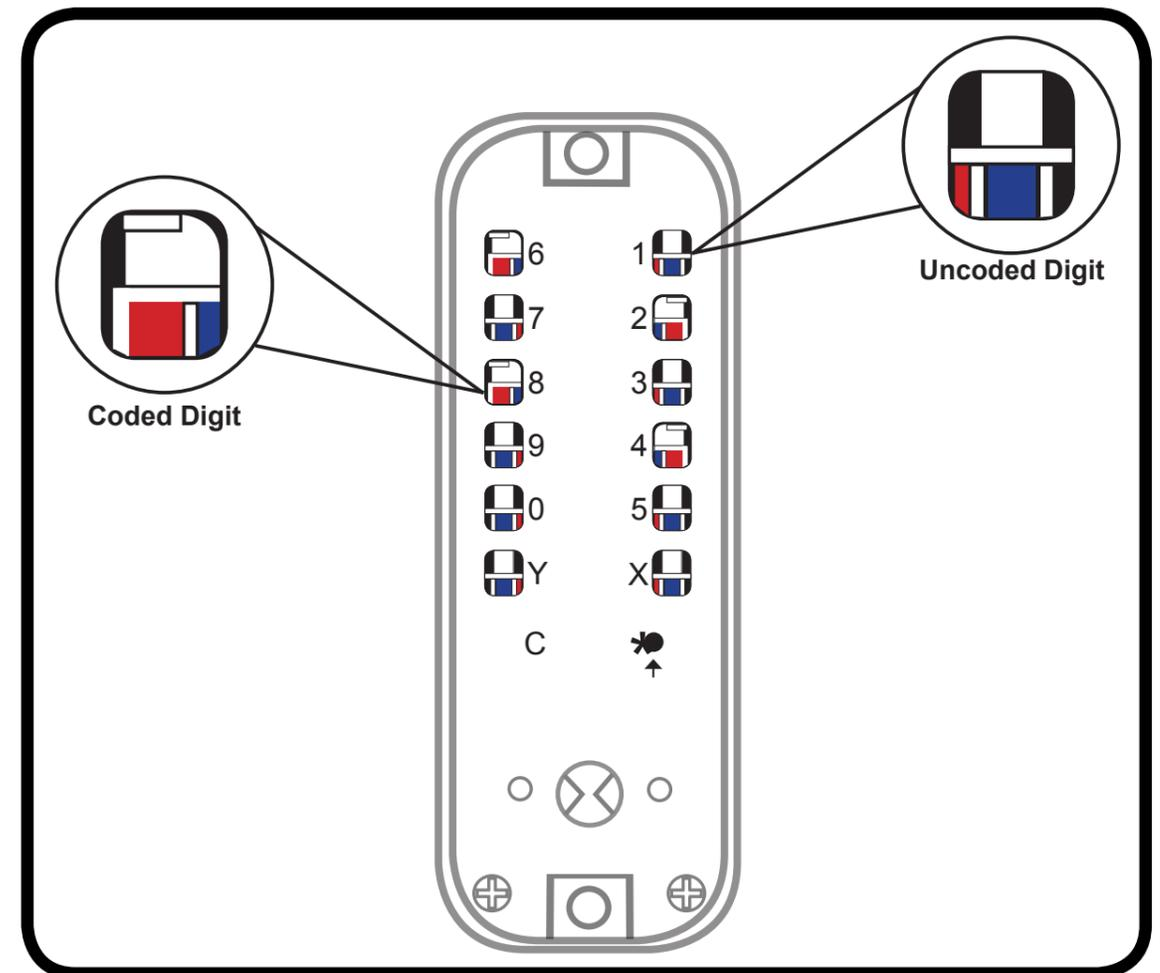

Fig.16
4. As per Fig.16 below, you will see that the red lines on digits 2, 4, 6 and 8 are closest to the centre of the porthole and is the code. All the other holes will show a blue line - these are not in the code. Once all the coded buttons have been pressed all of the 10 holes will have a blue lines in the centre of the portholes.